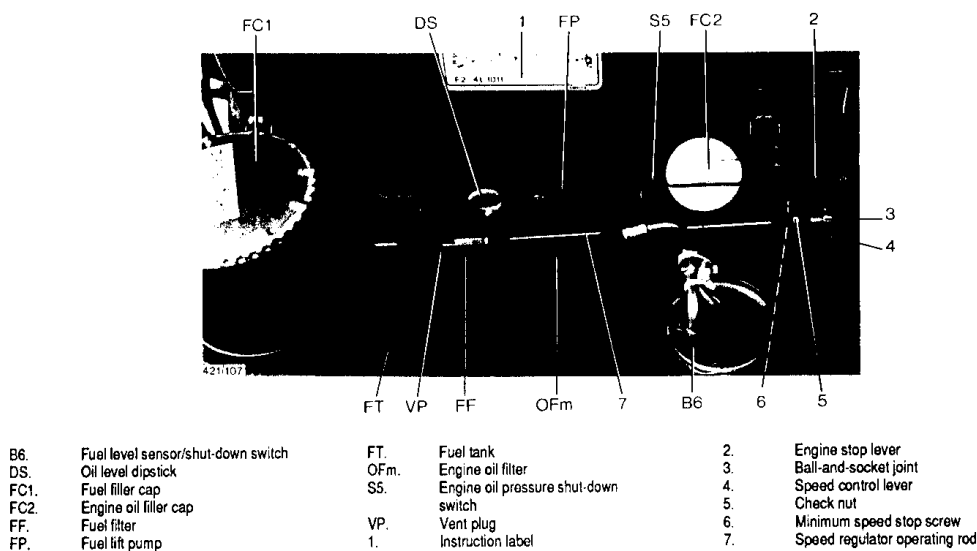

Fig. 9. Details on engine side
5. Check the unloading speed. Adjust, if necessary, the unloading speed by means of the minimum speed stop screw (6-Fig. 9).
3. Check the engine no-load speed. Adjust by means of the minimum stop screw (6-Fig. 9) to have the engine running at the specified speed.
#### 4.6.1 Draining the fuel filter (FF-Fig. 9)
#### 4.6.2 Replacing the fuel filter (FF-Fig. 9)